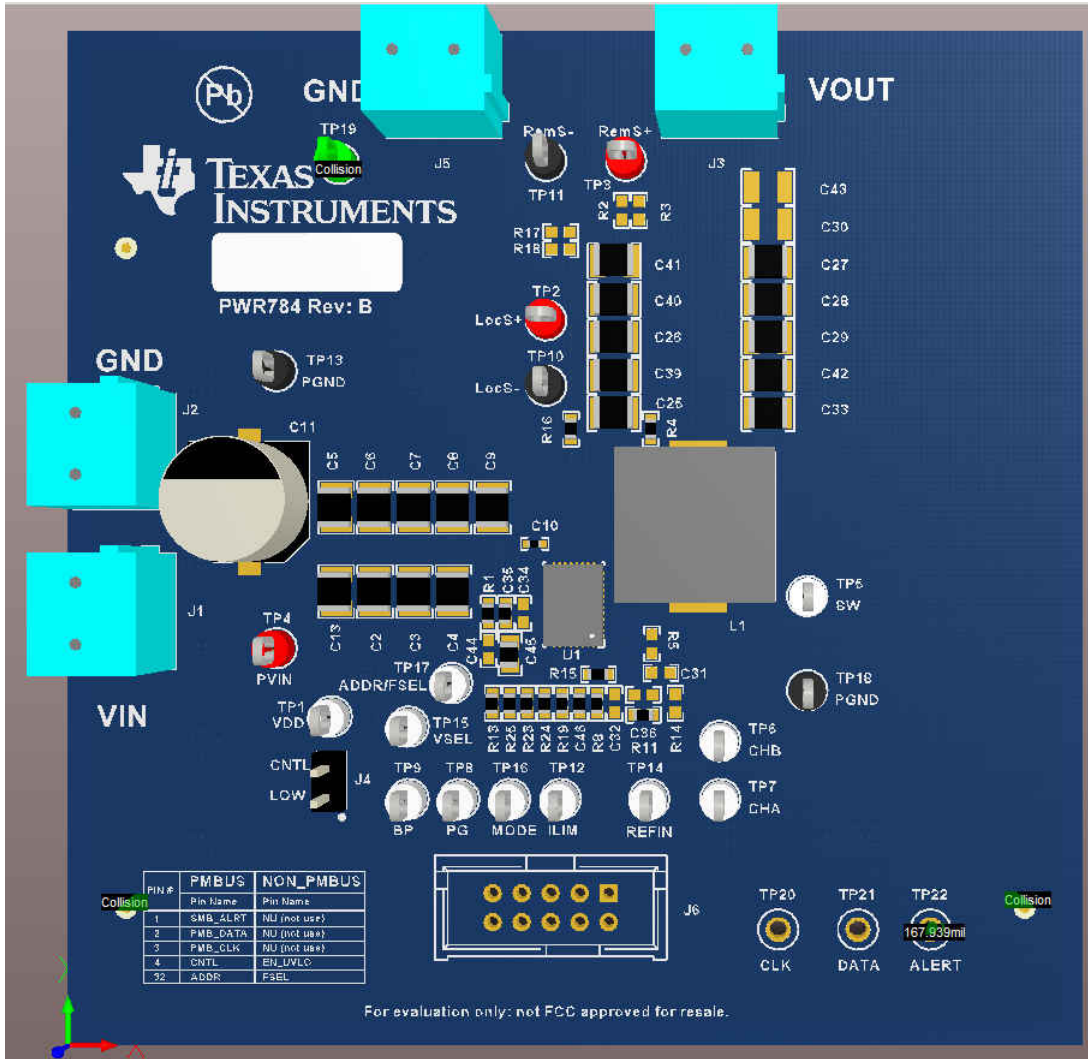

Figure 6-1. PWR-784EVM Overview
Multimeters: It is recommended to use two separate multimeters Figure 6-1. One meter is used to measure V_{IN} and one to measure V_{OUT} .
Output Load: A variable electronic load is recommended for testing Figure 6-1. It must be capable of 40 A at voltages as low as 0.6 V.
1. Connect VOUT to J3 and VOUT_GND to J5 Figure 6-1.
4. Connect VIN to J1 and VIN_GND to J2 Figure 6-1.